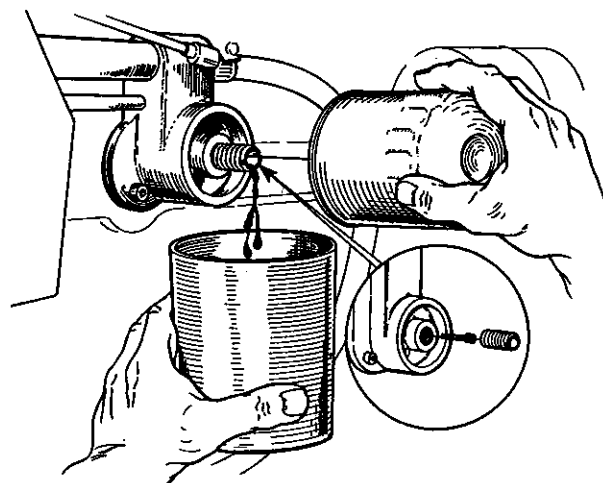

FIGURE 2
Fig. 1 for mechanically governed and Fig. 2 for hydraulically governed pumps.
4. Replace lubricating oil filter. Fig. 2. See Note, next page.